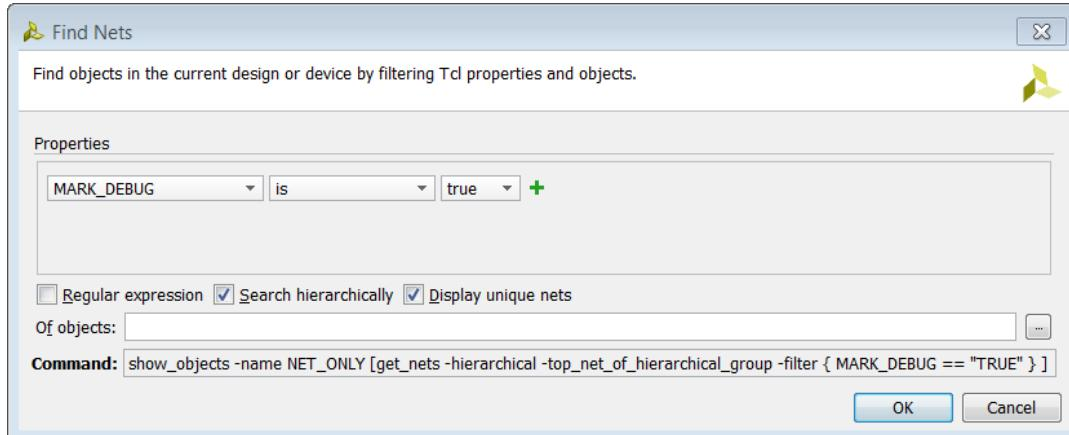

Figure 127: Find Nets with MARK_DEBUG Attribute
- In the find Nets dialog box (Figure 127), change the Properties to select **MARK_DEBUG** from the first drop-down list. This will show all the nets that have the `MARK_DEBUG` attribute set.